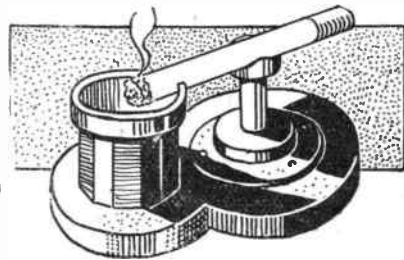

Fig. 1—The completed Ash Tray
**M**OST fellows know what a bakelite adhesive tape container is like and how neatly it is made. It seems a shame to throw such a neat affair away when the tape is used up. In fact, it is a shame, for quite a neat, miniature ash-tray can be made from all its parts as we show at Fig. 1.